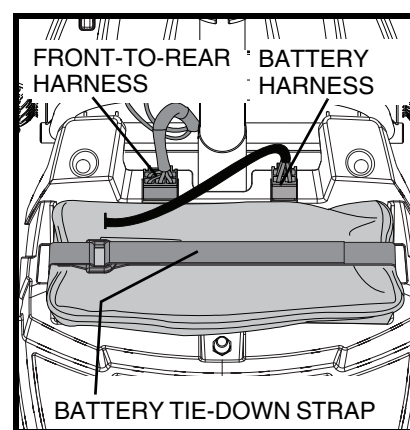

Figure 25. Harness Connections
5. Disconnect the battery harness. See **figure 25**.
6. Disconnect the front-to-rear harness. See **figure 25**.